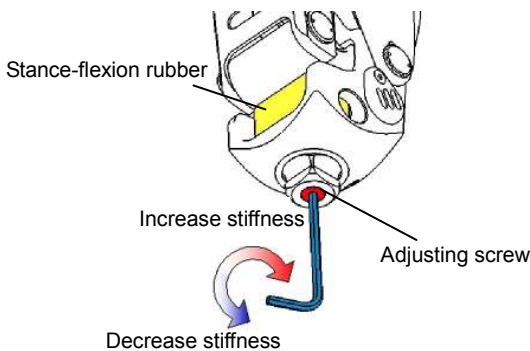

Fig. 9 How to Adjust Stance-Flexion Stiffness
- Adjust the adjusting screw (marked B) shown in Fig. 9 with a 3 mm hexagonal wrench.